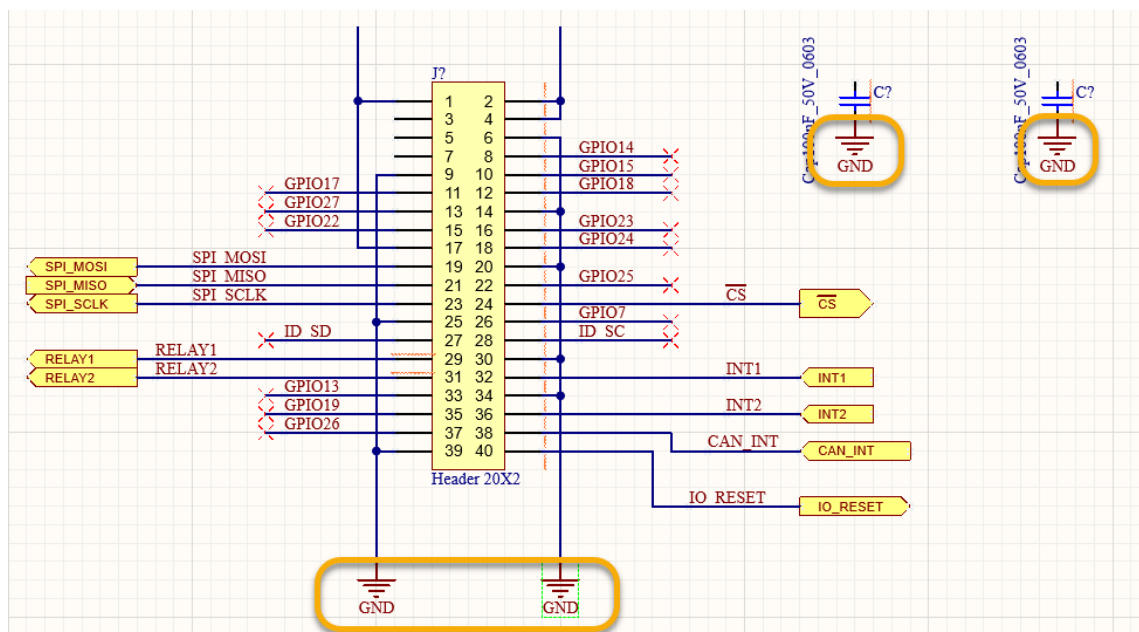

Figure 13. Power Ground ports below Header J4
- Place **GND** ports on the connections on J4, and directly on the pins of the two capacitors, using Figure 13 as a reference (Power Ports can be rotated by pressing the **Spacebar** while moving them).